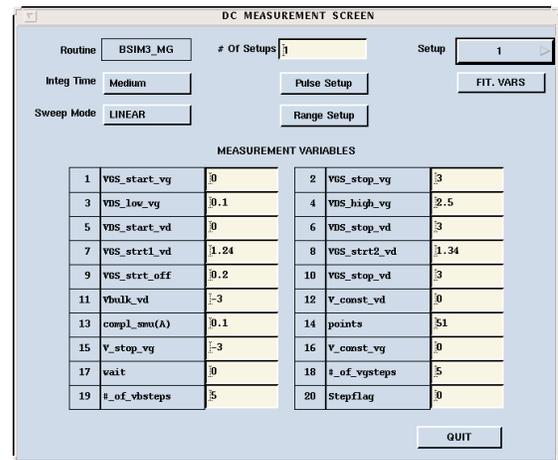

Figure 1. SOI BSIM3_MG routine measurement variables screen.
A. The BSIM3_MG routine in SOI module of *UTMOST* III can be used to extract SOI model parameters. The SOI BSIM3_MG routine operation is similar to the one in MOS module. However the "Measurement Variables" (Figure 1) and biasing of the SOI device is unique.
example of a partitioned mixed-signal schematic is shown in figure 1. This is the CCADC example, a 4-bit analog-to-digital converter, which can be found in the Cadence samples directory: the analog, digital and mixed-mode portions of this circuit are color-coded in the normal fashion.